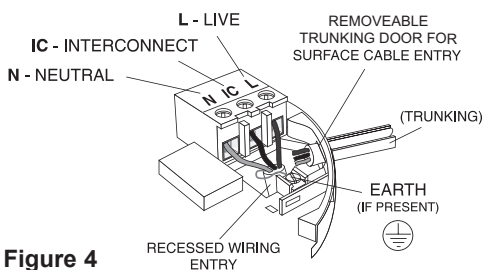

Figure 4
To interconnect the Alarms connect all the IC terminals together as shown in **Figure 4** (see “**Interconnecting Alarms**” section on page 16).
4. If the mains wires are recessed, bring the wires through the rear hole in the mounting plate as shown in **Figure 4**.
(a) position the mounting plate so the cable trunking is as shown in **Figure 4**.